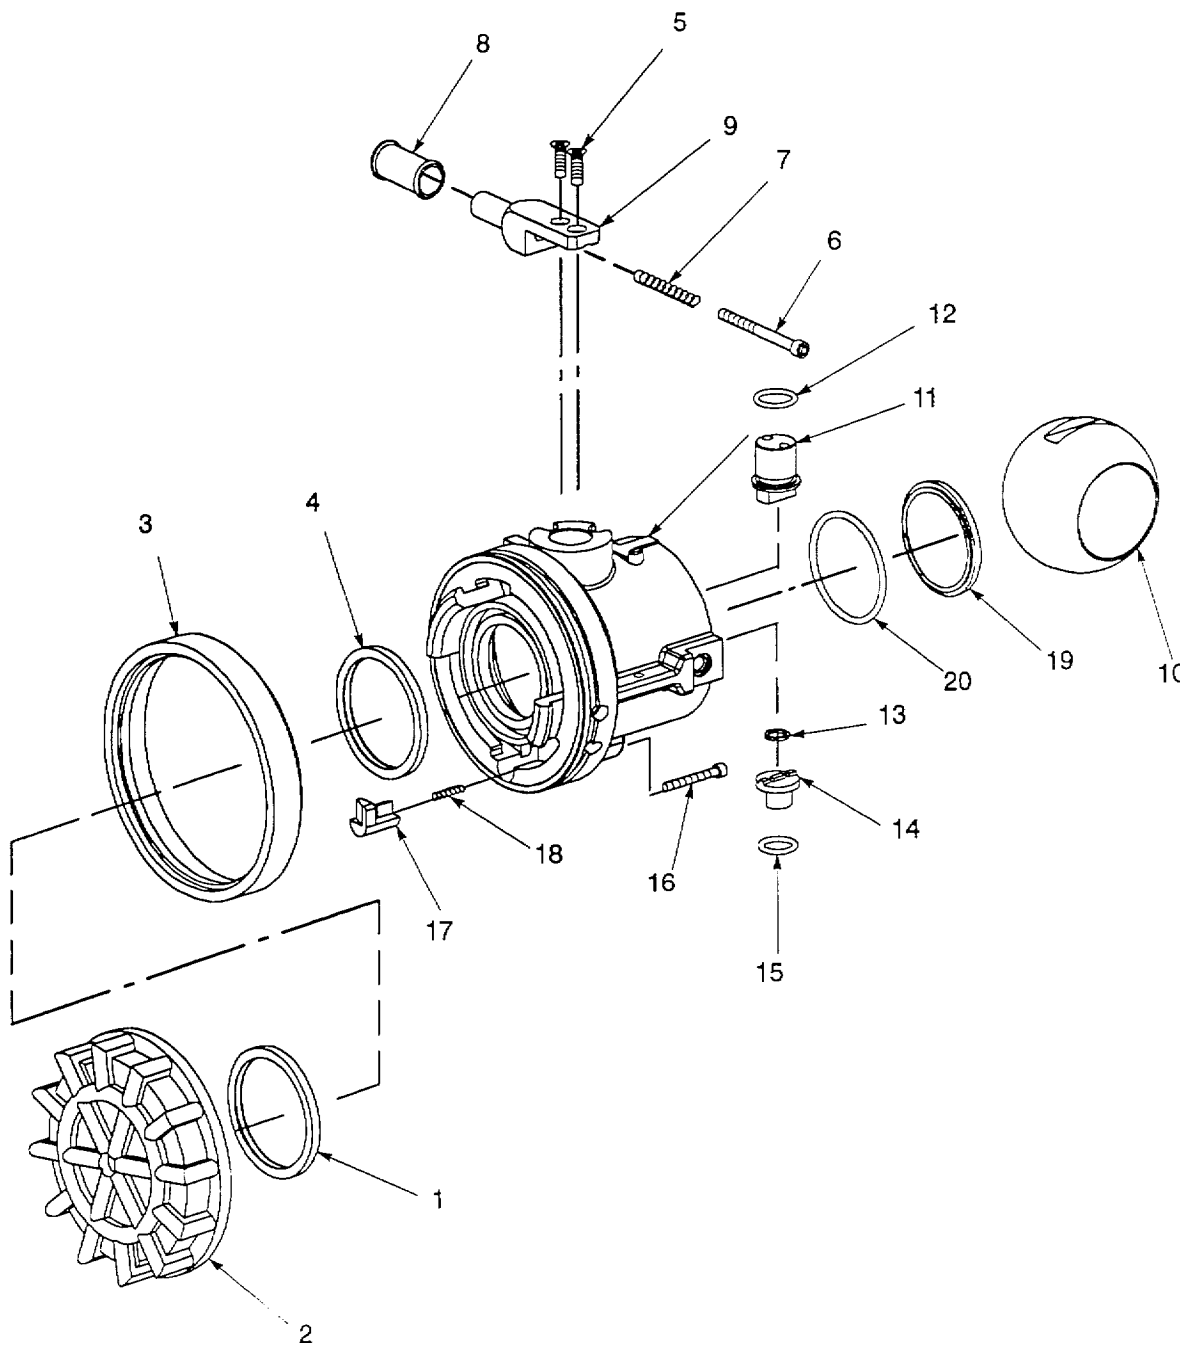
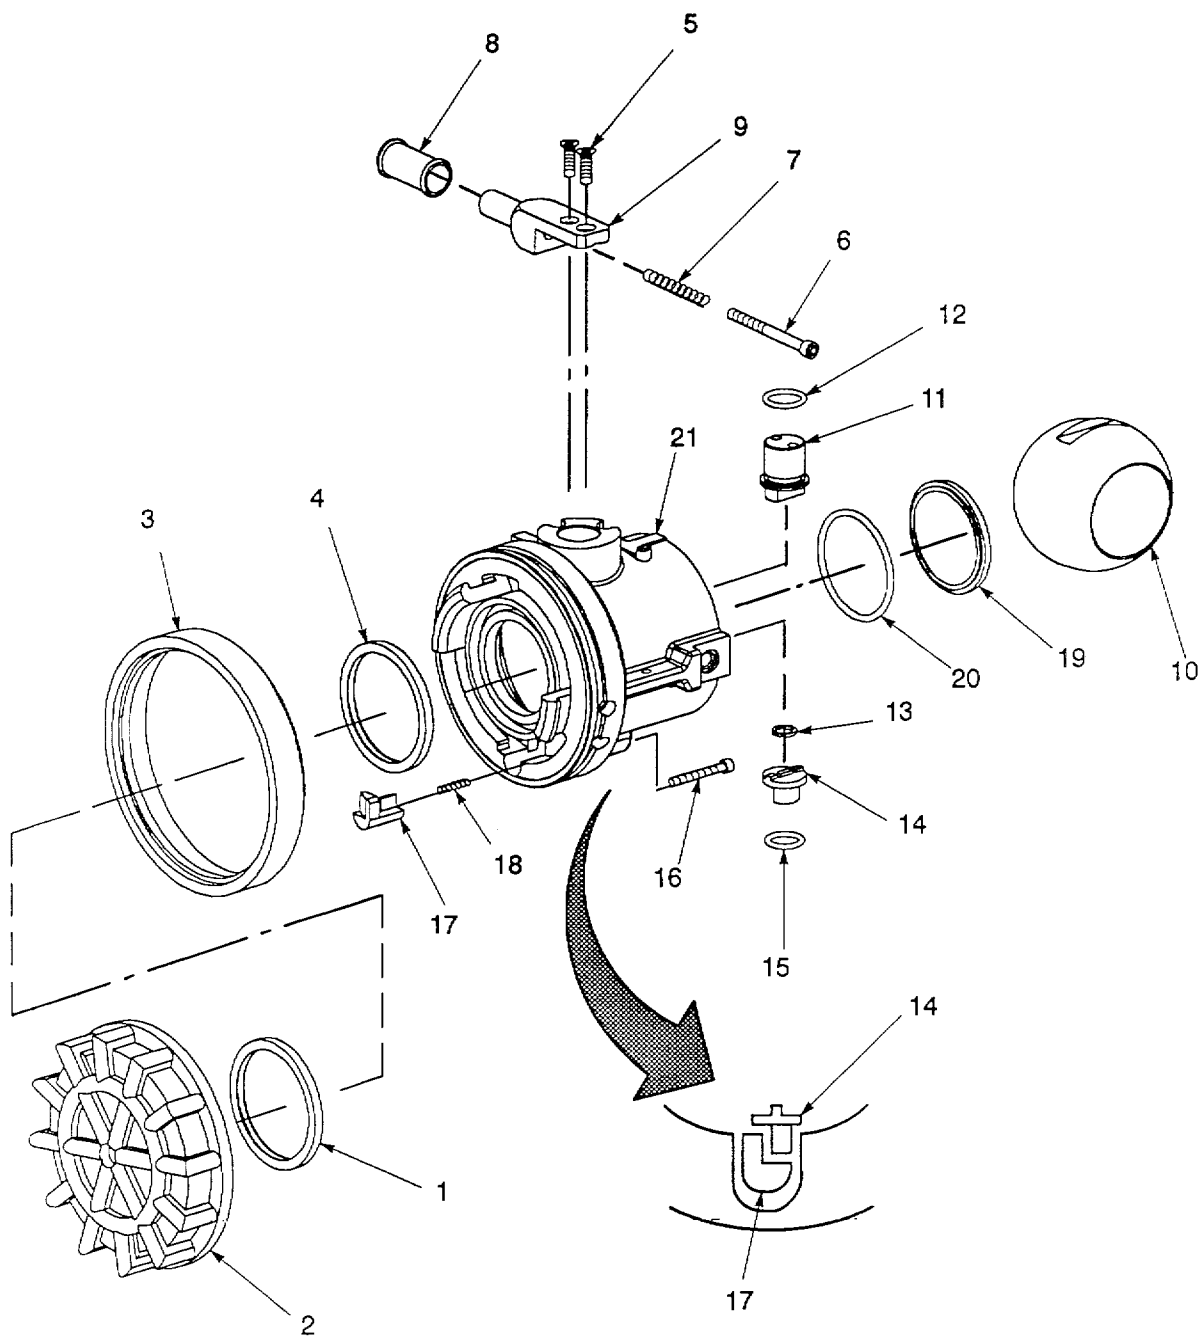

Figure 4-10. Valved Dry Break Coupling Disassembly.
Figure 4-11. Valved Dry Break Coupling Assembly.
b. Disassembly. Refer to figure 4-10.
- (1) Disconnect dust cap (2) from body (21).
- (2) Remove seal (1) from dust cap (2).
- (3) Remove bumper (13) and seal (4) from body (21).
- (4) Remove two self-locking screws (5) from arm (9). Remove arm and attached parts from body (21).
- (5) Remove screw (6), grip (8) and spring (7) from arm (9).
- (6) Remove ball (10) from back of body (21).
- (7) Remove stem (11) and attached preformed packing (12) from body (21).
d. Inspection. Refer to figure 4-10.
- (1) Inspect body (21) for cracks, scratched or damaged sealing surfaces, damaged locking lugs and corrosion.
- (2) Inspect dust cap (2) for cracks and damaged or missing locking lugs.
- (3) Inspect stop pin (14) for cracks, wear and scoring.
- (4) Inspect ball (10) for corrosion, flat spots and wear.
- (5) Inspect lock out pin (17) for wear.
e. Repair. Replace damaged and mandatory replacement components.f. Assembly. Refer to figure 4-11.**NOTE**
- (1) Lightly coat preformed packings (12, 15 and 20) and seals (1 and 4) with silicone compound.
- (2) Install preformed packing (20) and seal (19) in body (21). Make sure seal is fully seated in body. Seal will snap in place on top of preformed packing when correctly installed.
- (3) Install setscrew (16), lock out pin (17) and spring (18) on body (21). Tighten screw until bottomed out, then back off 1-1/2 turns.